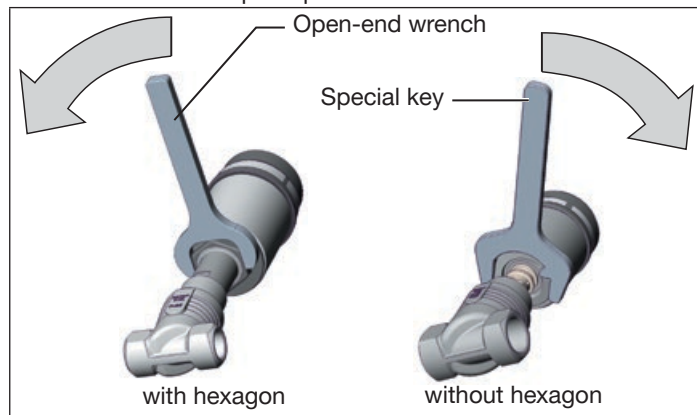

Fig. 16: Rotating with special key / open-end wrench
- ▶ Rotate the actuator module in the specified direction only (see "Fig. 16")!